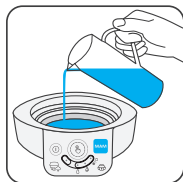

Fig. 6
2.) Use the **Bottle & Food Warmer chart** (Fig. 10) or the **Gentle Warming Chart** (Fig. 11) to determine how much water you need. Pour the correct quantity of water into the base (Fig. 6). You can use the MAM Bottle Cap as a measure.